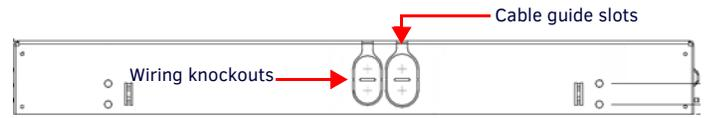

FIG. 3 WALL FRAME KNOCKOUTS
1. Remove the appropriate knockouts from the wall frame to accommodate the cables being threaded through to the touch panel (FIG. 3).